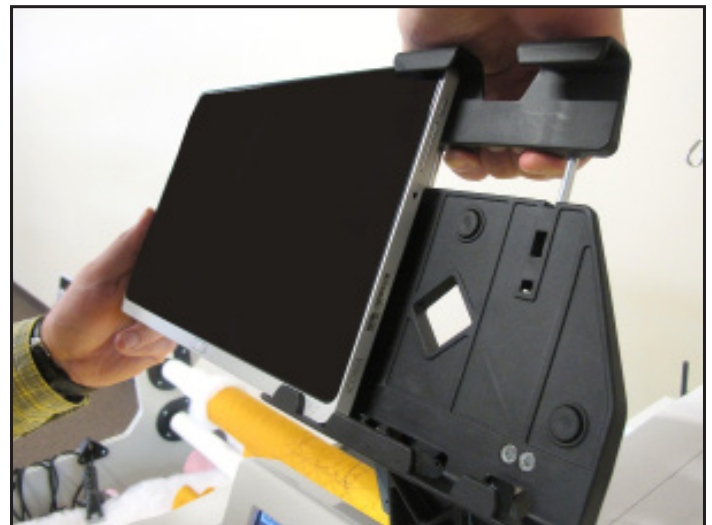

Figure 32
17. Slide the computer sideways into the new tablet bracket until it is completely seated (*Figure 32*).